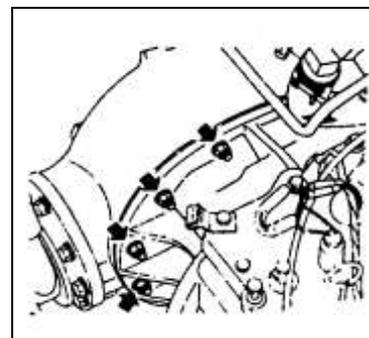

Fig.3-3
- 10) Remove nuts securing axle case to differential gear carrier.(see fig.3-3).